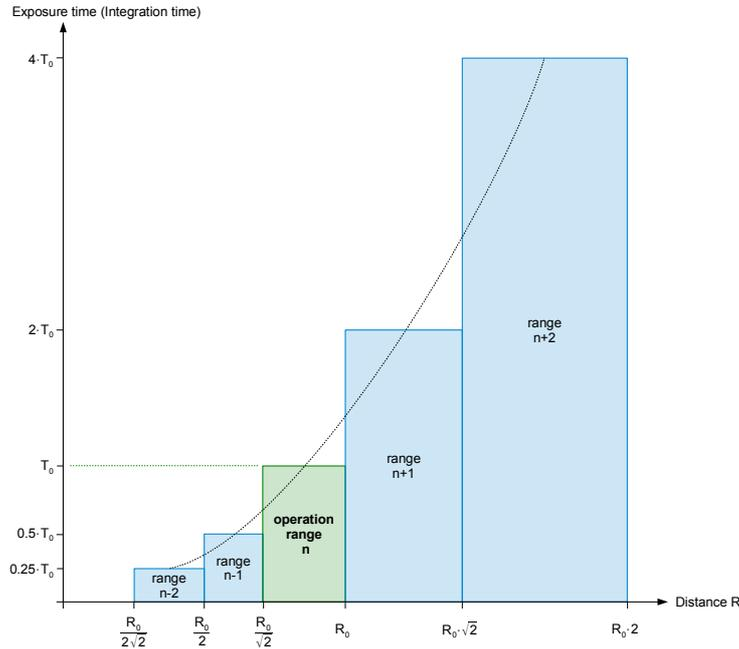

Figure 16: Operating ranges as a function of distance and exposure time based on doubling the light power to the sensor
- to adapt the integration time correspondingly to the necessary sensitivity as demonstrated in Figure 16.
The easiest way is to adapt the exposure time to the current illumination situation (e.g. in Figure 16). With the command formats, which allows adjusting of the exposure time, it is easy to do. It is simple to change the exposure time on the fly: an "INTEGRATION" command can be sent to the chip before a capture is initiated.